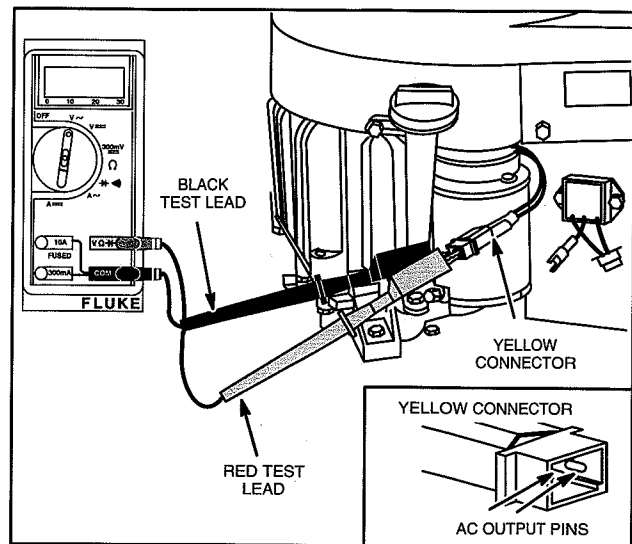

Fig. 22 – Testing AC Output
4. Insert RED and BLACK test lead probes into output terminals in yellow connector, as shown Fig. 22. (Meter test clip leads may be attached to either terminal.)